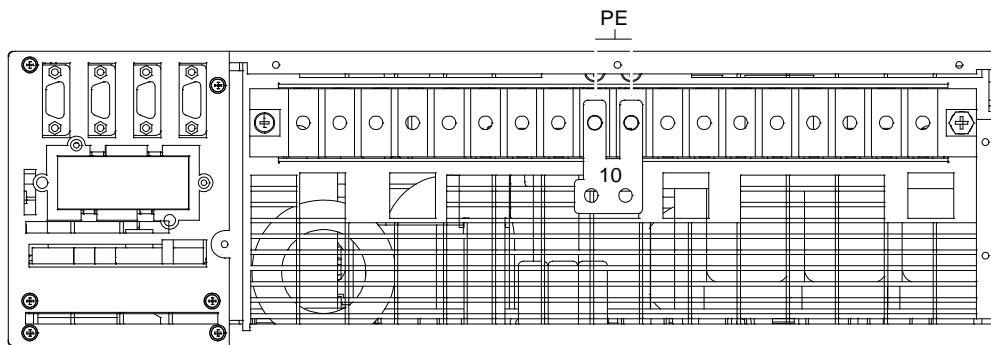

Figure 2-11 Shorted copper bar 10 for PE terminals of the UPS I/O terminal block
7. As shown in Figure 2-11, you can short two PE terminals of the UPS I/O terminal block using the shorted copper bar 10 with an insulating film, and connect two screw holes of the shorted copper bar 10 to PE terminals of the single POD.
8. As shown in Figure 2-11, you can short two PE terminals of the UPS I/O terminal block using the shorted copper bar 10 with an insulating film, and connect two screw holes of the shorted copper bar 10 to PE terminals of the single POD.